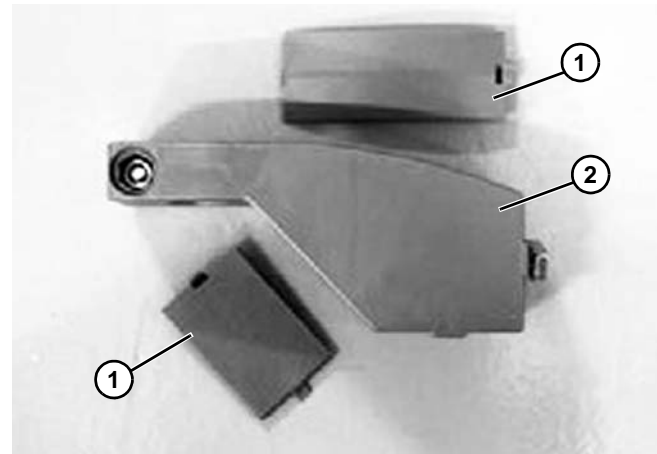

Figure 90
1. Open the upper and lower caps (Figure 90, item 1) on FGRB - 40 guide rail bracket (Figure 90, item 2), and install T-bolt.